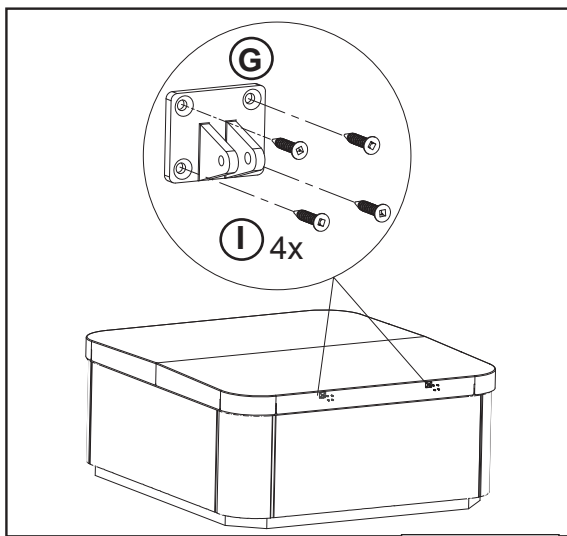

Figure 2.1
2. Line up the top Rear Hinge (G) holes (Figure 2.1) with two of the marked holes on the back side of the cover. Using the cordless drill and square drive bit to fasten the Rear Hinge to the cover by using two of the #10 x 1"square (I) Flat Head screws on the top (marked) holes first. Using the 1/8"(3mm) drill bit and the bottom two holes of the Rear Hinge, drill through the hidden aluminum plate followed by inserting two more of the same screws in the bottom holes. Repeat procedure for second Rear Hinge.
1. Using the Mounting Bracket (bottom part of the Pivot Assembly) as a template, predrill 7/64" holes into spa (Figure 2.1) with 1" max. depth. There are (7) holes per Mounting Bracket.